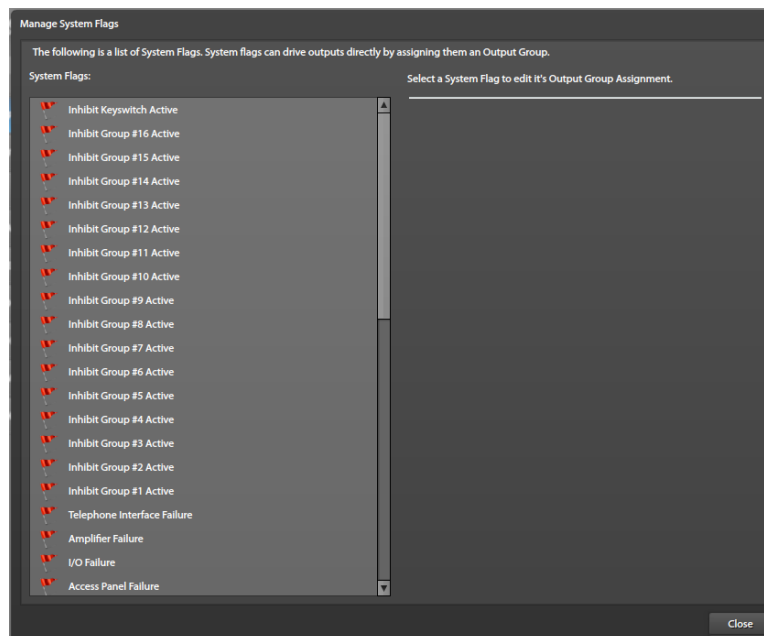

Figure 16. Manage User Flags
1. Click the **USER FLAGS** button from the **SYSTEM PROPERTIES** screen to open the **MANAGE USER FLAGS** screen (see Figure 16).